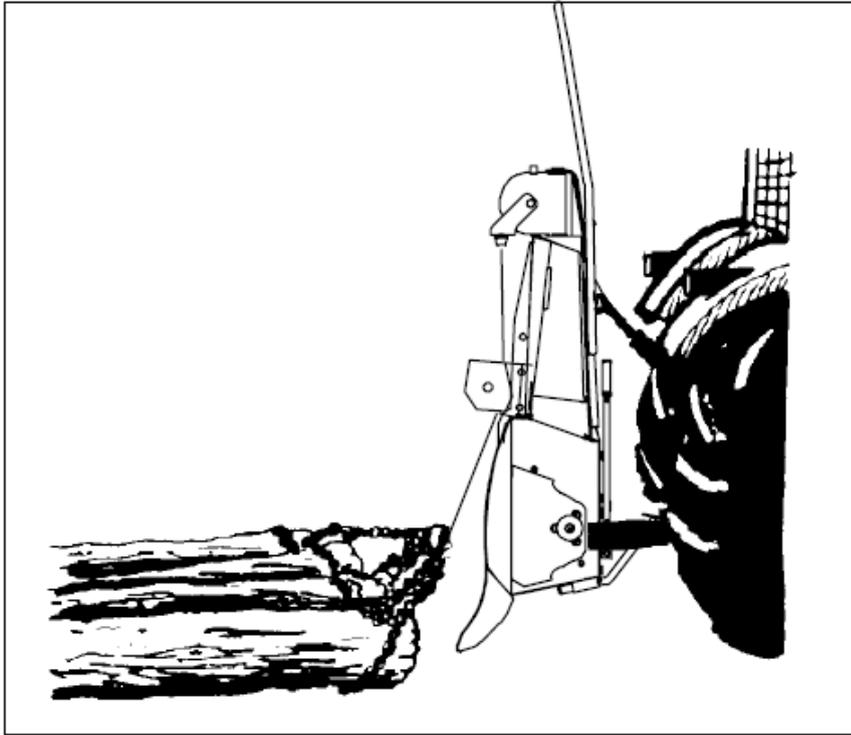

Fig. 12.
3. Raise the 3-point hitch so that the logs come off ground (fig. 12.).